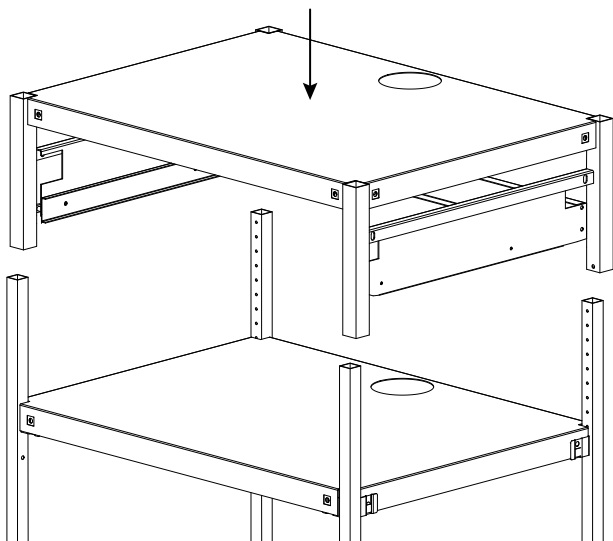

FIGURE 8
Carefully turn top shelf assembly over and place it onto the bottom section of the cart as shown in **FIGURE 8**. **TIGHTEN ALL SHELF HARDWARE AT THIS TIME.** Raise the top shelf section to desired height and secure in place with screws (II) as shown in **FIGURE 9**.